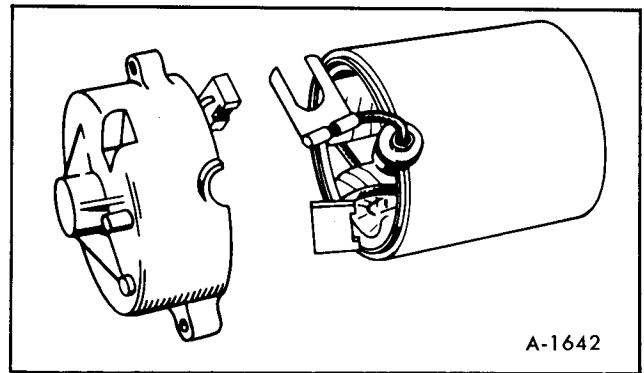

Figure 62—Separating Yoke and Rear Bracket
5. Removing the insulated brush from the brush holder permits separation of the rear bracket from the yoke (figure 62).